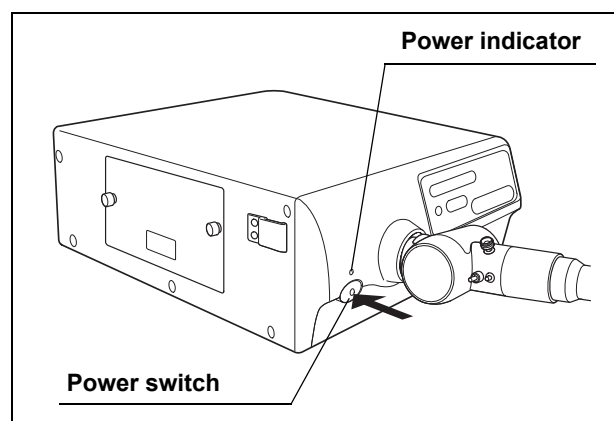

Figure 4.14
1. Press the power switch to turn the light source OFF. The power indicator is extinguished (see Figure 4.14).